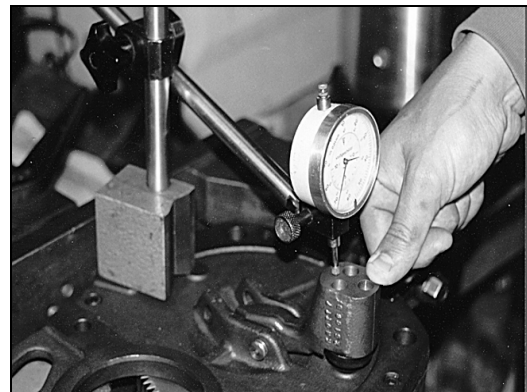

Figure 68
- Press the brake lever against the cover and read the deflection on the dial gauge. (See Figure 68)